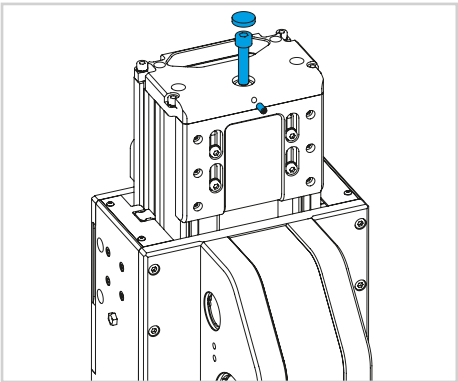

Fig. 3
- 2) Remove the cap which covers the tensioning screw, untight the set-screw. Remove the tensioning screw (see Fig. 3).